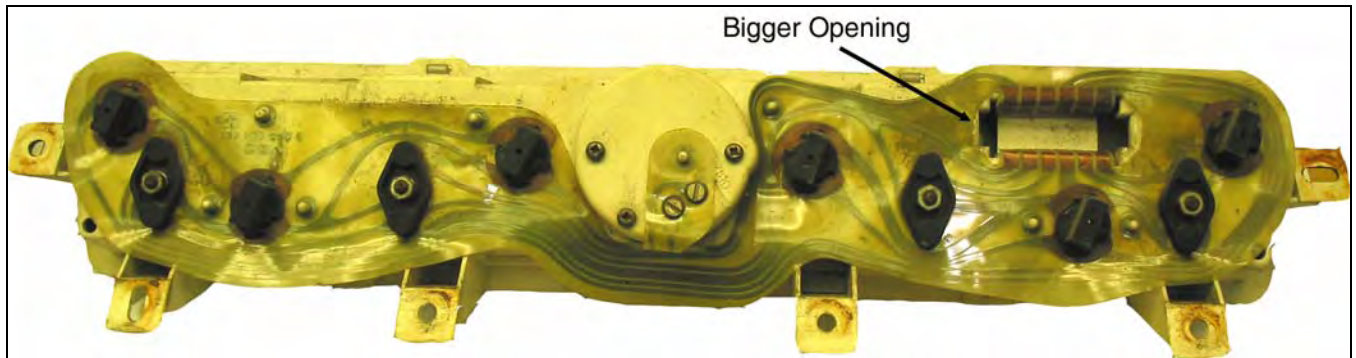

Figure 7.6.3 Gauge Cluster (Back)
- 7.6.3 Notice the connector has a bigger tab on one end, **Figure 7.6.3**. This will be the same end as the installed Pink wire and the Light Blue wire. Match this bigger end to the bigger end of the Gauge Cluster connector opening on the back of the gauge cluster.